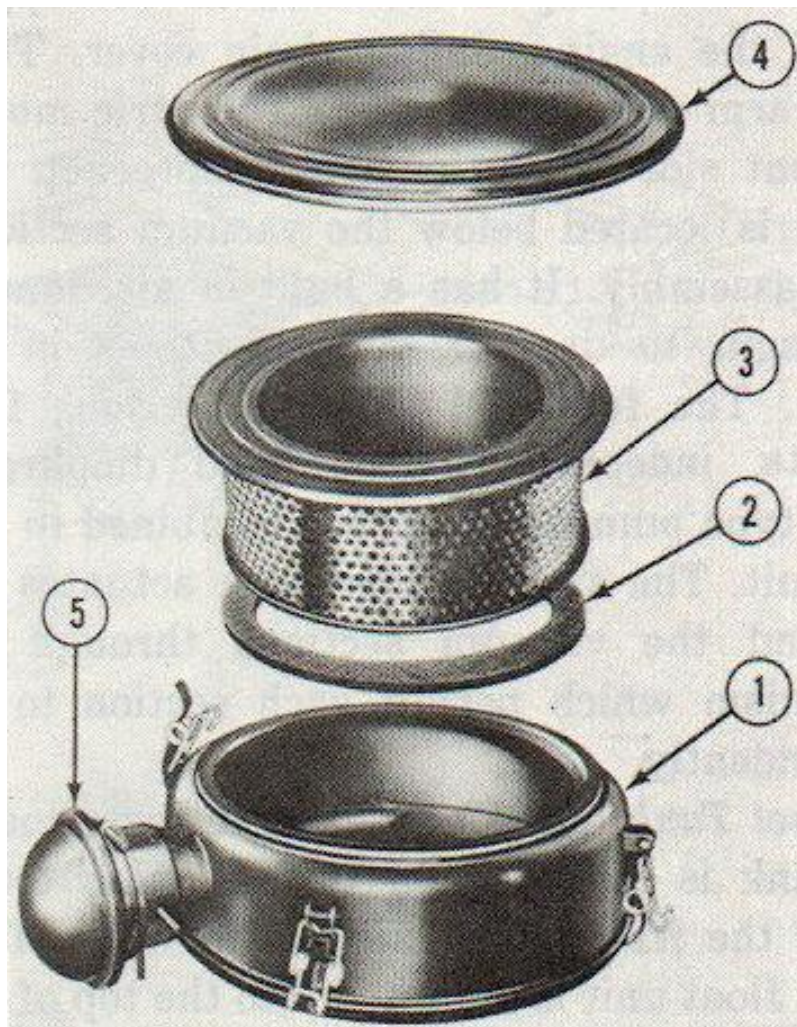

Figure 2-14. Air Cleaner (Early Type)
(1) Release retaining clips.
(2) Remove cover (4 fig 2-14).
(3) Remove filter element (3) and gasket (2) (fig 2-14).
(4) Inspect top and bottom of element seals for cracking or deformation. These surfaces must be smooth and uniform.
(5) Inspect element for punctures.
(6) Clean element by tapping lightly on a flat surface.
(7) Element may be cleaned with low pressure compressed air. Direct air from inside the element to the outside.
(8) Internal portions of air cleaner should be cleaned of dust and dirt. If washed with solvents, surfaces must be thoroughly dried before element is installed.
(9) Clean precleaner with compressed air.